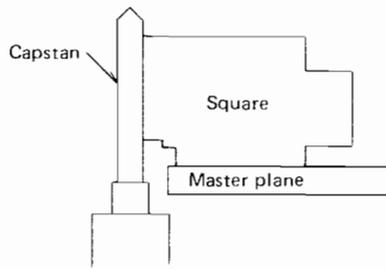

Fig. 1-9
2. Apply the square to the capstan shaft from two different directions to check that the square is flush with the capstan shaft. Refer to Fig. 1-9 and 1-10 below.